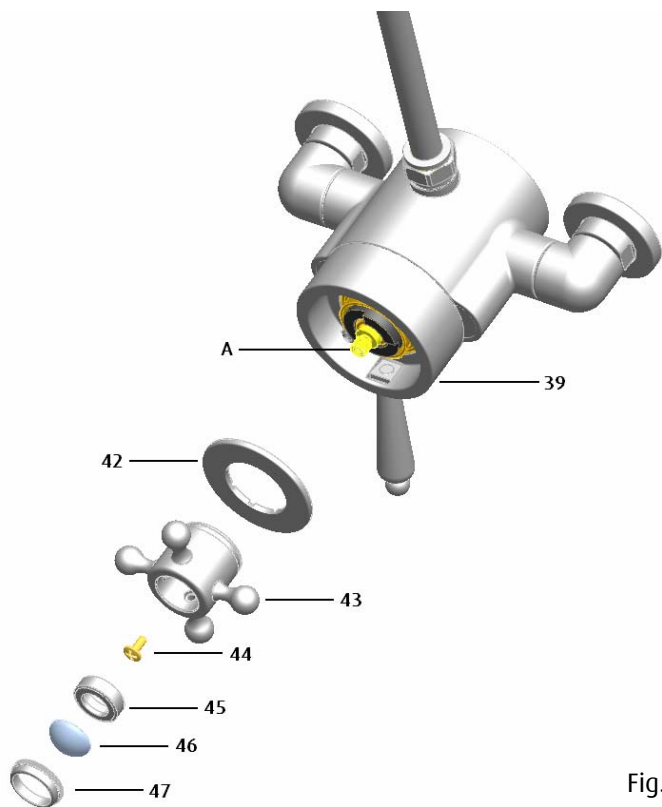

Fig. 3
6. Operation (See Fig. 3).
It is important to note that the flow control handle (39, Fig 3) turns through approximately 170 degrees to achieve full and maximum flow anticlockwise on, clockwise off .
The small cross handle (43, Fig 3) controls the temperature. This control stays stationary when the flow control handle is turned.